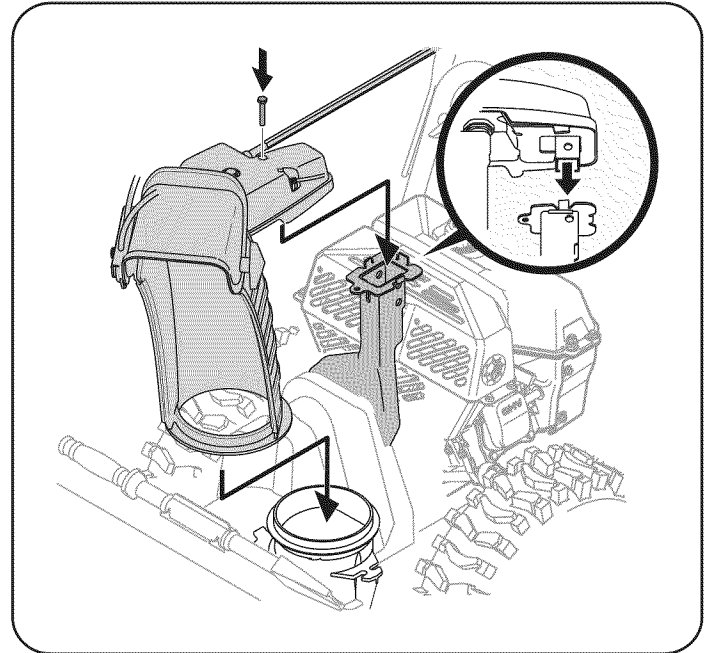

Figure 5
4. Place chute onto chute base and ensure chute control rod is positioned under handle panel. Install hex screw removed in Step 2 but do not secure with wing nut at this time. See Figure 5.